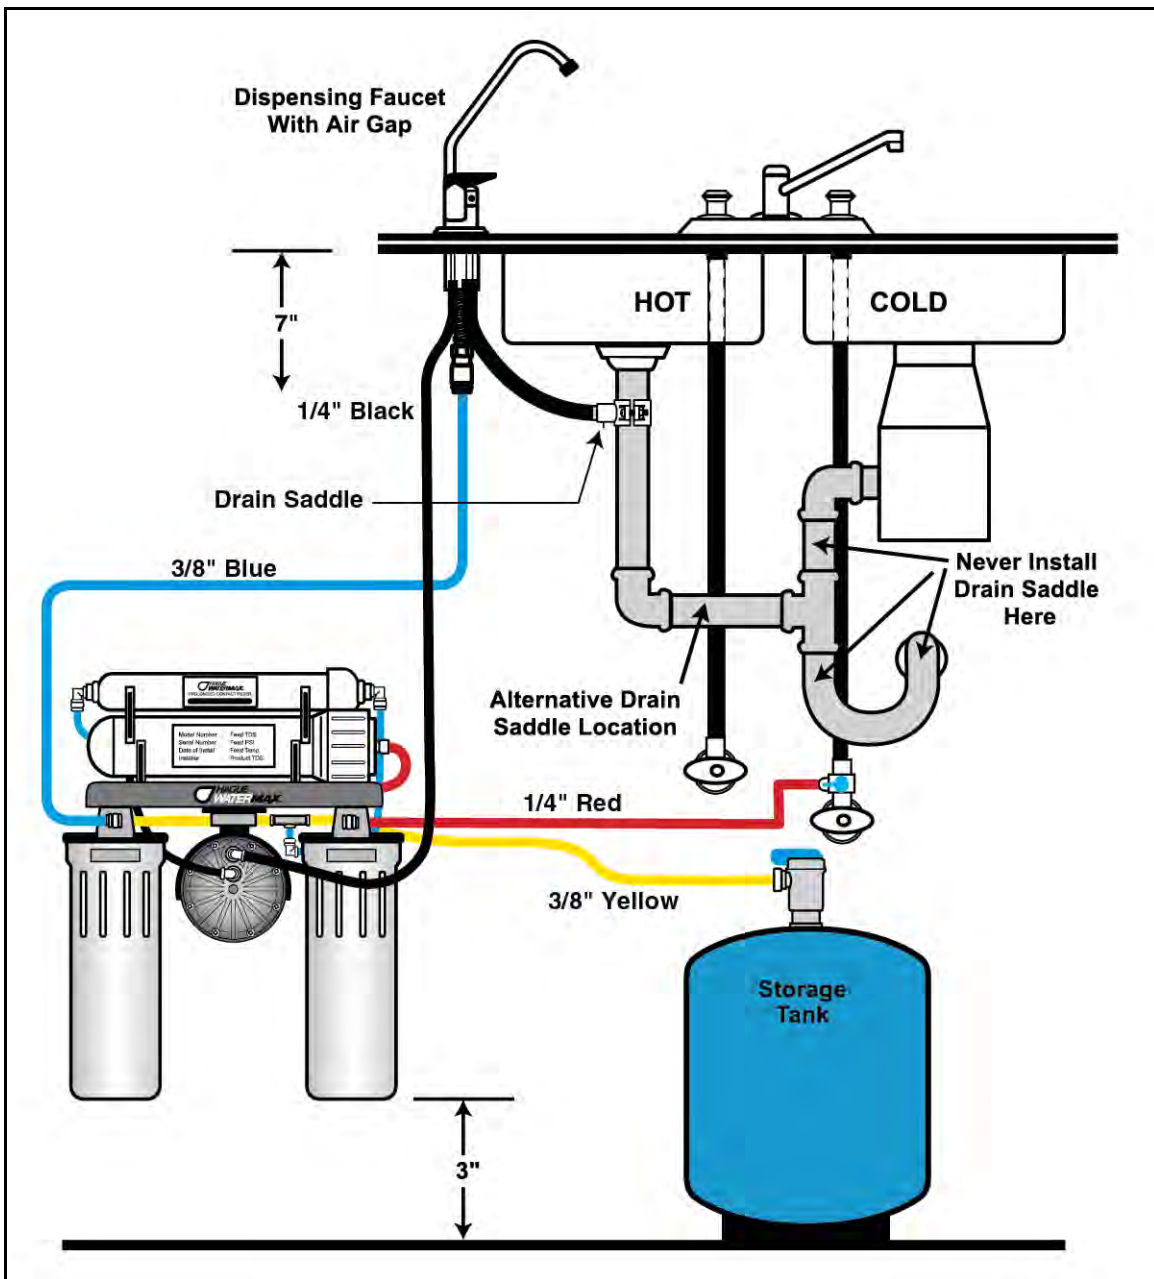

Figure 2: Installation Diagram
Study the overall installation diagram (See Figure 2) before proceeding, to familiarize yourself with the general layout of the appliance.
- B. Using the diagram in Figure 2, from under the sink, feed the pre-connected 1/4-inch black tube and the pre-connected 3/8-inch blue tube from the RO assembly through the hole in the sink. Remove the red locking clip from the spigot adapter, slip the blue tube into the spigot adapter, and replace the red locking clip. Slip the 1/4-inch black tube onto the small hose barb on the base of the spigot.
- D. Cut the 3/8-inch black tube to desired length and connect to the drain saddle with the provided clip. (See Figure 2)
Mount the RO Appliance on the cabinet wall using the screws supplied. Leave 3 inches (8 cm) below the bottom of the filter housing for clearance when changing filters (See Figure 2).